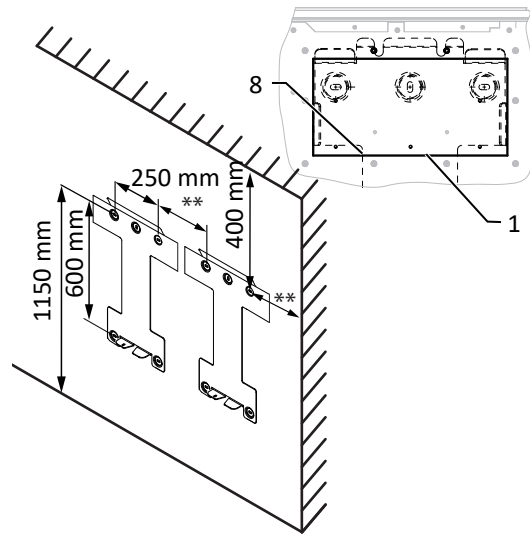

Fig. 14: Wall mounting
- Minimum clearances to be observed during installation: [See figure 14 [► Page 21]
2. Suspend the device in the mount using the recess on the rear of the device. ([See figure 14 [▶ Page 21]].